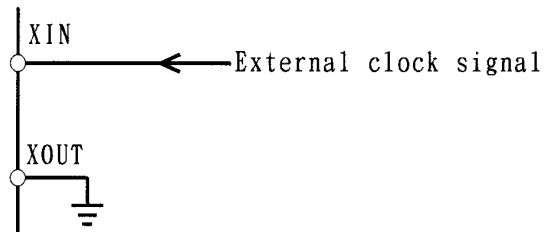

Fig. 4
- For external clock operation, if the high(H) level of the input clock signal amplitude equals to or is greater than 1.5V, and the low(L) level equals to or is smaller than 0.5V, then connection should be made as shown in Fig.4.